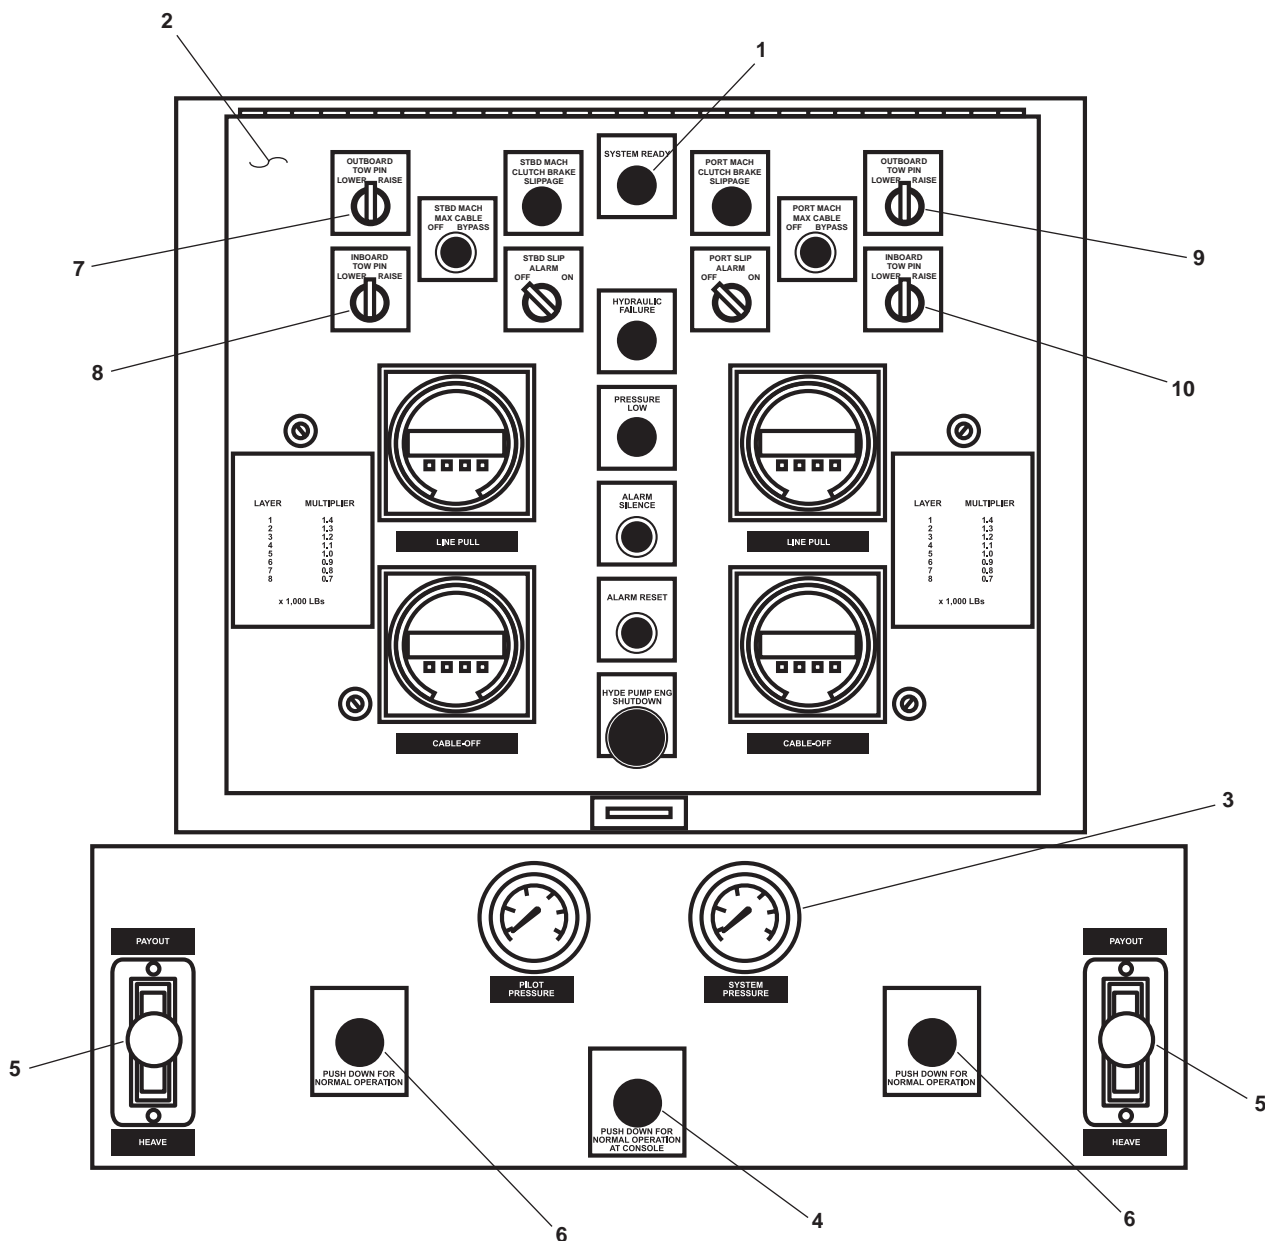

Figure 11. Towing Machine Operator Control Panel
2. Verify that the SYSTEM READY indicator (figure 11, item 1) on the towing machine operator control panel (figure 11, item 2) is illuminated.
3. Verify that the SYSTEM PRESSURE gauge (figure 11, item 3) indicates that the towing machine hydraulic system is supplying hydraulic fluid to the system.
4. Place the local or remote switch (figure 11, item 4) in the local position by pushing it down fully to the NORMAL OPERATION AT CONSOLE mode.
5. Ensure that the directional control lever (figure 11, item 5) is in the NEUTRAL position. The NEUTRAL position is centered between the PAYOUT and HEAVE positions.
6. Place the speed range selector (figure 11, item 6) in the NORMAL OPERATION mode by pushing it down fully.
7. Place the directional control lever (figure 11, item 5) in the PAYOUT position. The towing machine will operate at a speed proportional to the lever movement.
6. Place the speed range selector (figure 11, item 6) in the LOW SPEED mode by fully pulling it up to its fully extended position.
7. Place the directional control lever (figure 11, item 5) in the HEAVE position. The towing machine will operate at a speed proportional to the lever movement.